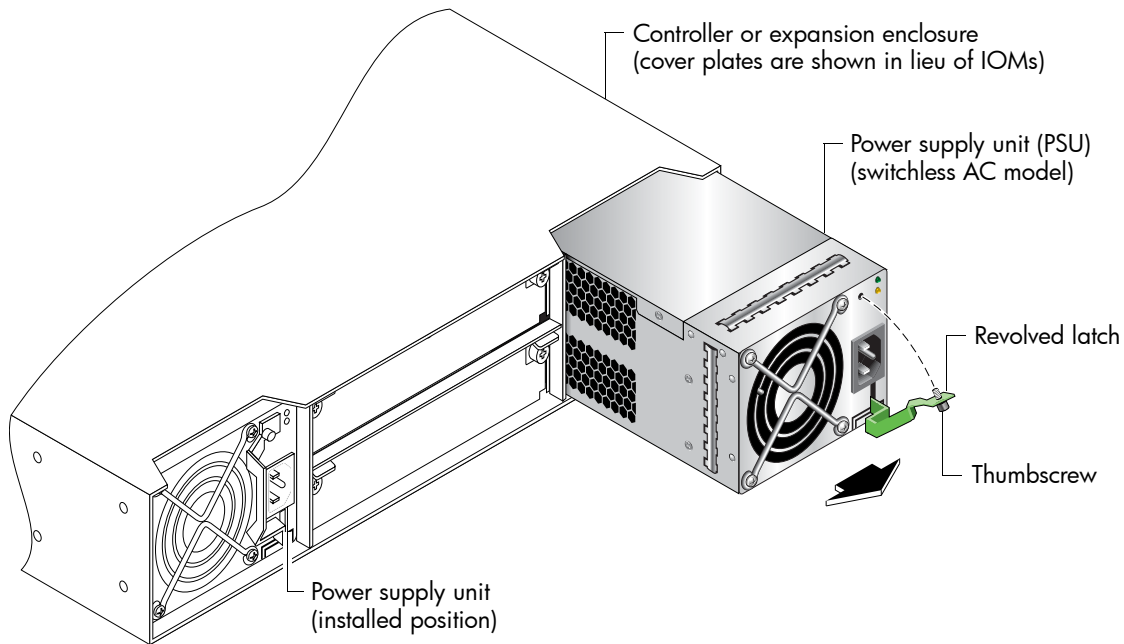
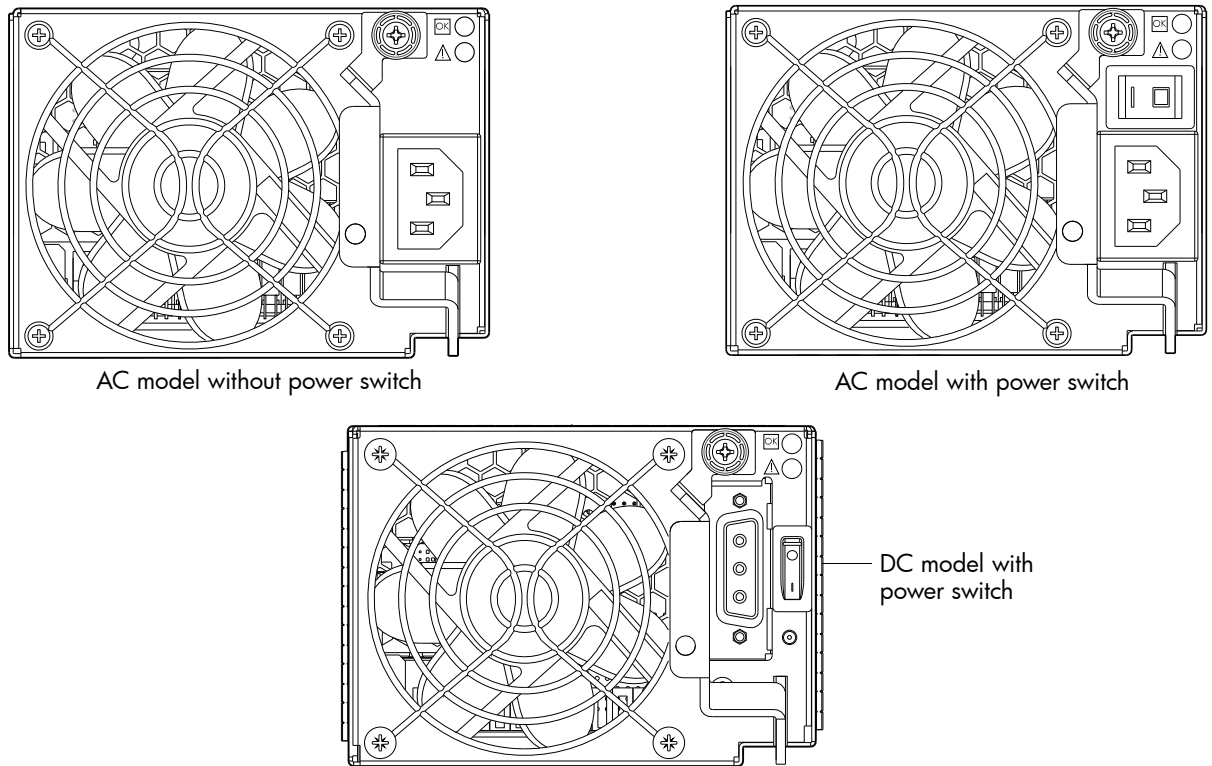

Figure 23 Removing a power supply unit
Figure 24 Orienting a power supply unit
See Figure 23 below.
1. Orient the PSU with the AC or DC power cable connector toward the right as shown in Figure 23 on page 40 and Figure 24, respectively.
LEDs for a PSU are located in the top right corner of the module face, as shown in Figure 24 on page 41.